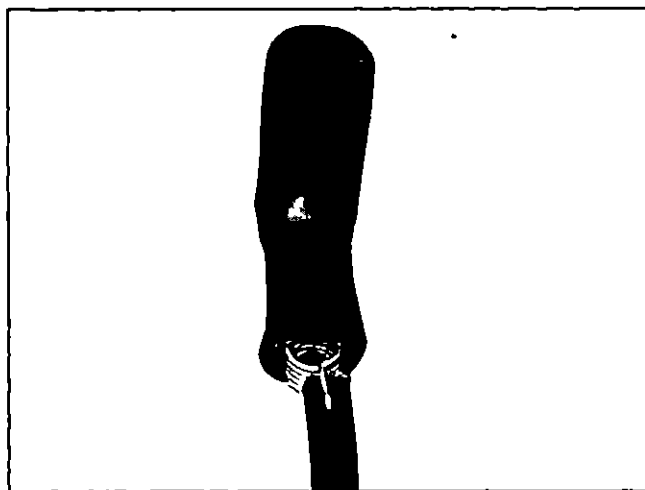

Figure 36. Sparkie Cover and Spring
- 8 Remove sparkie cover and sparkie spring from end of lead wire Figure 36
- 7 Reinstall sparkie spring and cover at end of spark plug lead wire Be sure sparkie spring is making contact with wire inside insulation (Refer to Figure 36)